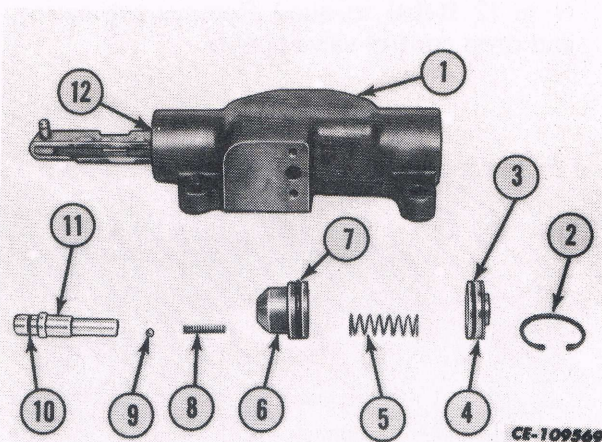

Fig. 37
c. Remove the drop poppet snap ring (2) and retainer (4). Push down on the retainer with a screwdriver to free the snap ring and remove the spring (5), poppet (6), pilot spring (8), ball (9) and valve seat (11). See Fig. 37.
d. Using a screwdriver, push down on the retainer under the valve link to free the main control spool snap ring and remove the snap ring (12). See Fig. 37.